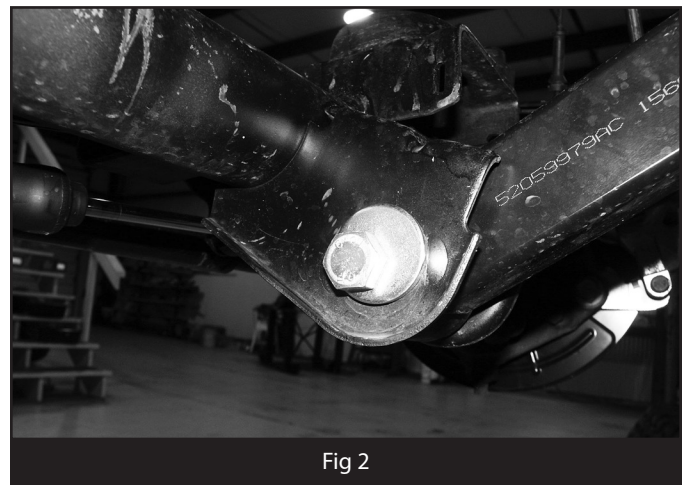

Fig 2
6. When the perforated sections are removed from the lower control arm mount, reinstall the control arm to the axle with the new provided cam bolt, nut and cam washers. Just snug the cam hardware so that the cam washers are retained within the stops. Final cam bolt torque will be completed with the weight of the vehicle on the suspension. (Figure 2)